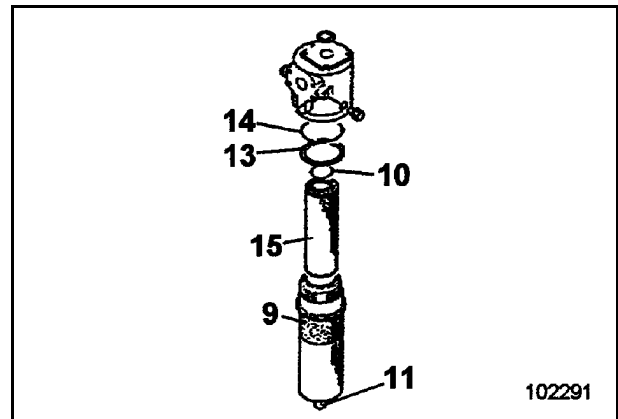

Fig. 3-87:
- Unscrew drain plug (11, Fig. 3-87:) and drain the hydraulic oil from the filter housing (9). (Place a suitable recipient under the filter housing).
- Unscrew filter housing (9).
- Disengage filter element (15) with a slight turn from its retaining catch and withdraw from filter housing (9).
- Clean filter element (15) in white spirit or paraffin oil.
- Replace filter element (15) if it is damaged.
- Clean filter housing (9, Fig. 3-87:) and the sealing faces at the filter head with white spirit or paraffin oil.
- Insert new filter element into filter housing (9) and refit to the filter head with new, lightly oiled sealing rings (10 and 14) and a new retaining ring (13).